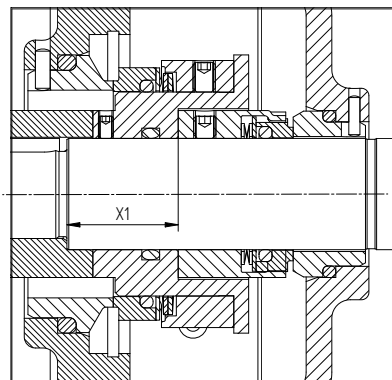

Figure 16: Adjusting the mechanical seal MD1.
- 6 Fit the rotating part of the mechanical seal (1220) onto the shaft. Adjust the rotating part of the mechanical seal to distance X1 from figure 16 and corresponding table. Lock it by fixing the set screw.